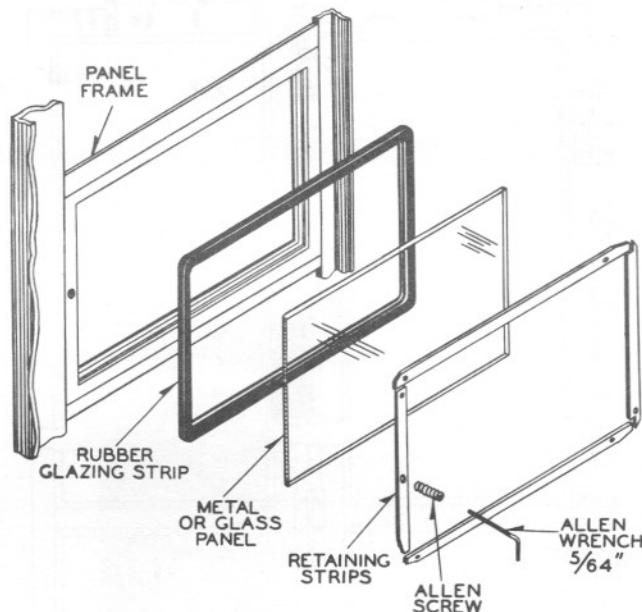

Fig. 4 – Panel Assembly
- Replace retaining strips in reverse sequence and tighten Allen screw (see Fig. 4).